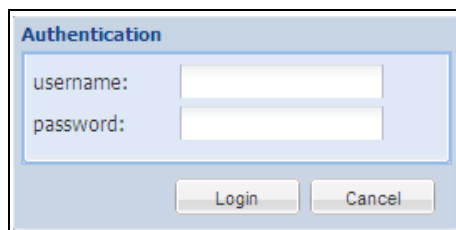

Figure 59. Login Authentication
3. Enter a valid user name and password in the authentication dialog box (see Figure 59). Click **Login** to continue or **Cancel** to exit.